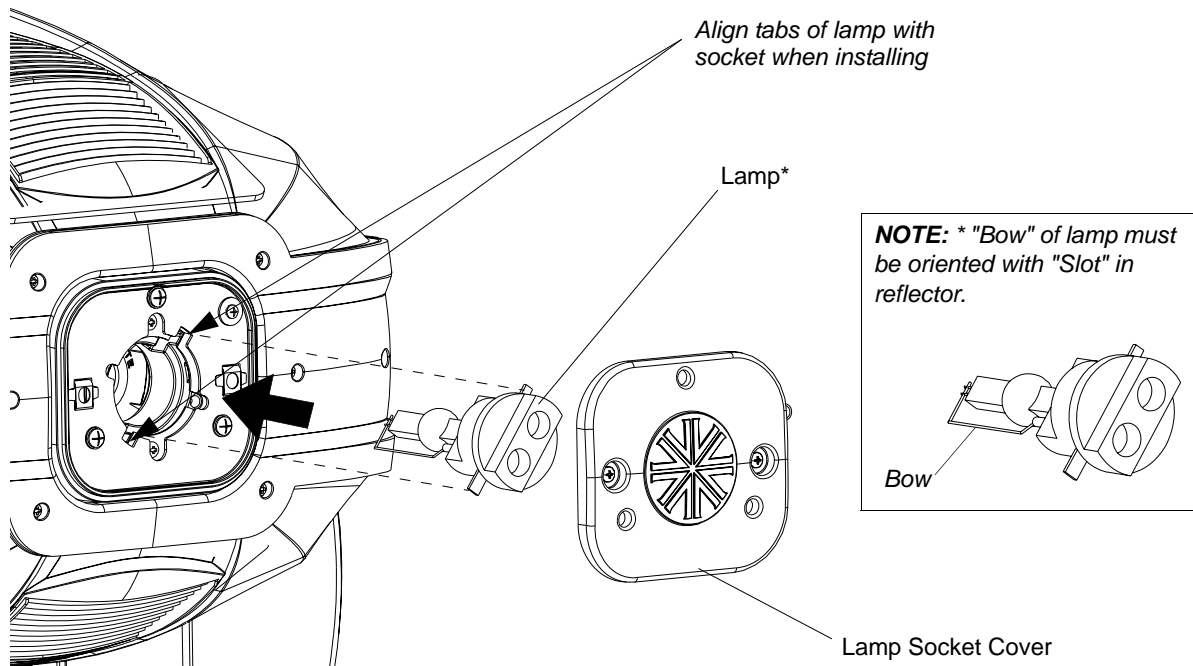

Figure A-2: Lamp Installation
- Step 5. To remove lamp, grasp lamp base by hand, twist lamp counter-clockwise until lamp's tabs align with slots in lamp socket (see Figure A-2 on page 79 for more information), and remove lamp by pulling it straight out of socket.
Step 7. As shown in Figure A-2, align replacement lamp tabs with lamp socket.